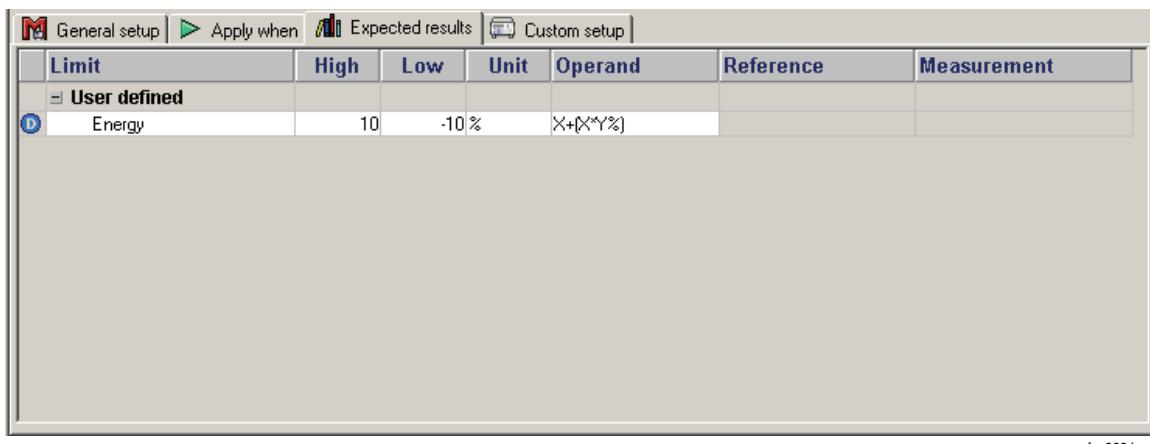

Figure 4-3. Expected Results Options for User Input
4. Click the **Expected results** tab to view or change the measurement limits for tests, as shown in Figure 4-3.